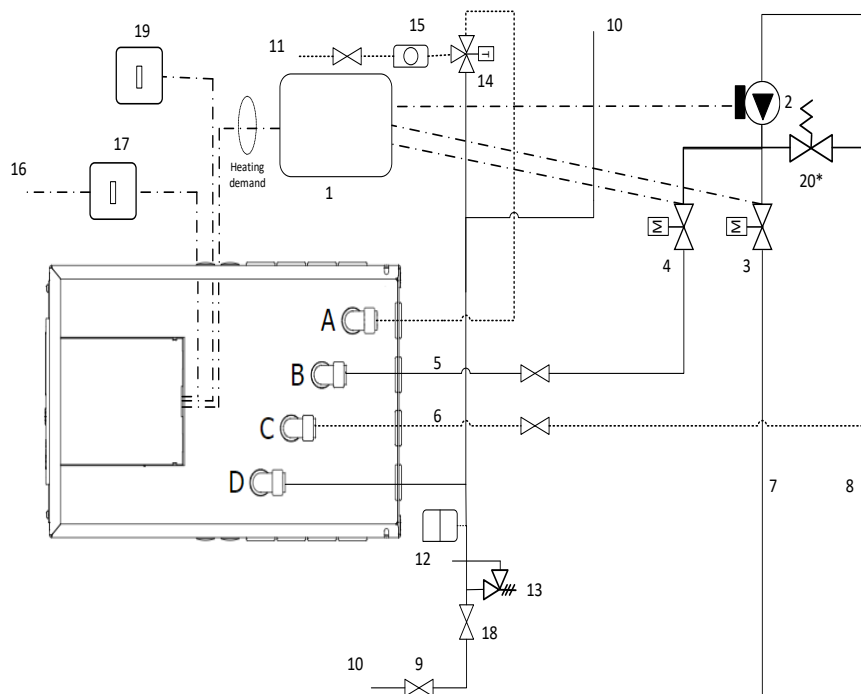

Figure 12.1: Example wiring option 1 schematic (see Figure 3 for piping and electrical options available)
- Run and connect 3 Core mains power supply cable (16A minimum, minimum 2.5mm² CSA) from the Double-pole isolating switch to the Heat Battery controller (Figures 12.1 and 12.2).